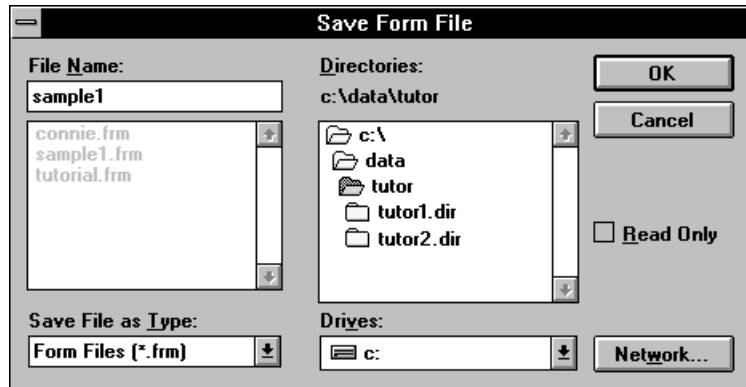

Figure 3-4. Saving the Experiment Form.
To save the Experiment Form, click **Save**. The Save Form File window appears (figure 3-4). Type a name for the form in the **File Name** box, and then click **OK**. Fragment Analysis adds a .frm file extension. Alternatively, you can accept the default name, form1.frm, in which case the next default name will be form2.frm, and so on. (See section 6.1.10 for information on file name restrictions.)
1. In the Experiment Form, click **Save**. The Save Form File window appears (figure 3-4).